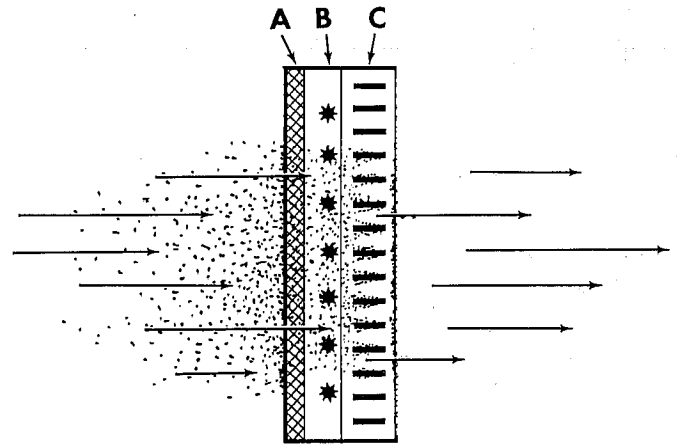

Figure 1
Dirt laden air flowing through the ducts (figure 1) first enters the pre-filters (A) where large particles (hair, lint, etc.) are trapped. Smaller particles (smoke, dust, pollen, etc.) pass through these pre-filters and enter the ionizing section (B). Here each tiny particle receives a positive electrical charge. These charged particles then enter the collecting section (C). This section consists of a series of aluminum plates . . . alternate plates are charged positively.